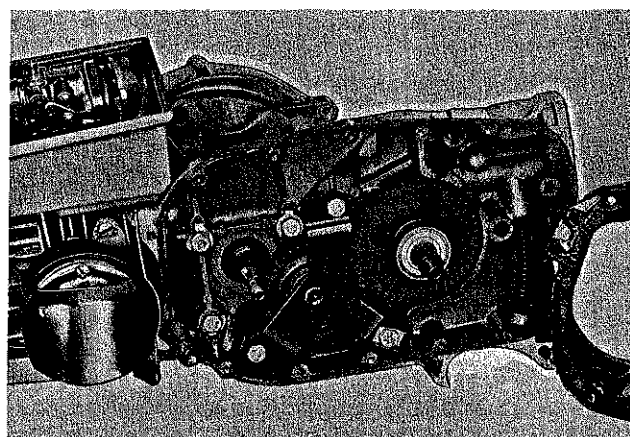

Figure IX-12. Illustrating the reverse installation of the sprocket shaft assembly for mounting the bar and chain on the right-hand side of the gearcase.
*These parts are reversible on the saw so that the position of the bar may be changed from left to right on the gearcase. (Figure IX-12)